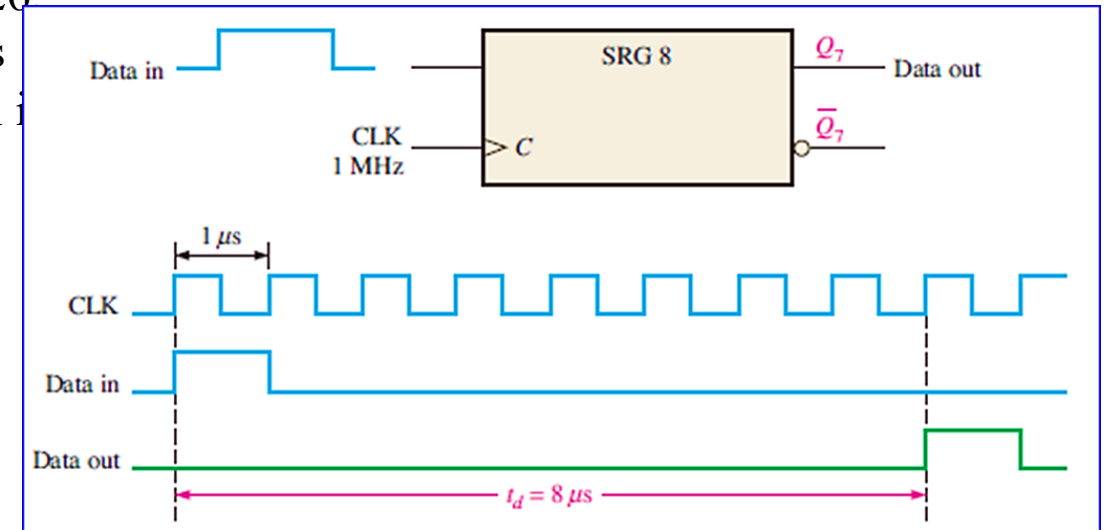

FIGURE 26 The shift register as a time-delay device.
- When a data pulse is applied to the serial input as shown in Figure 26 it enters the first stage on the triggering edge of the clock pulse. It is then shifted from stage to stage on each successive clock pulse until it appears on the serial output n clock periods later.
- This time delay operation is illustrated in Figure 26, in which an 8-bit serial in/serial out shift register is used with a clock frequency of 1 MHz to achieve a time delay (t_d) of $8\ \mu\text{s}$ ($8 \times 1\ \mu\text{s}$). This time can be adjusted up or down by changing the clock frequency. The time delay can also be increased by cascading shift registers and decreased by taking the outputs from successively lower stages in the register if the outputs are available, as illustrated in next Example.